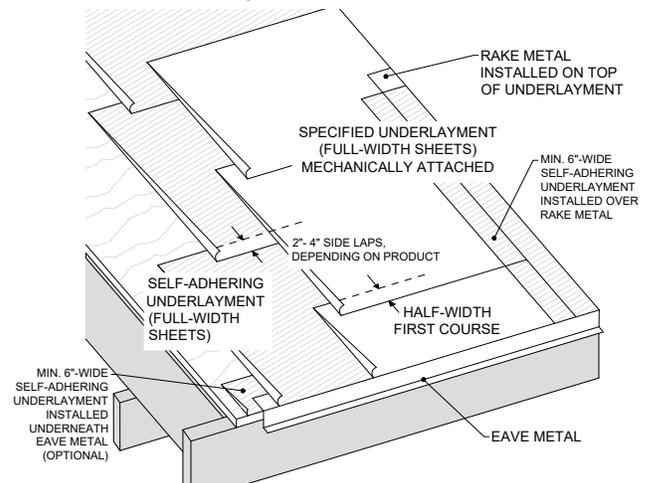

Figure 41 - Initial Layer of Self-Adhering Underlayment Followed by Mechanically-Attached Underlayment
- Initial layer of Secure Start HT and one additional layer of mechanically-attached underlayment (Right Start UDL or Secure Start SG/Plus/Permeable) (See **Figure 41**)
- Install an initial layer of Arctic Seal or Secure Start HT and one additional layer of mechanically-attached underlayment (Right Start UDL or Secure Start SG/Plus/Permeable). Two (2) layers of Arctic Seal are also acceptable. (See **Figure 41**)